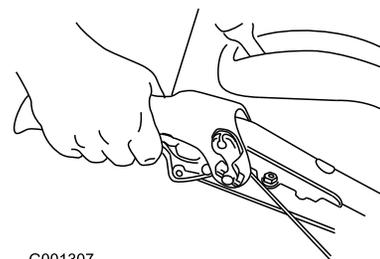

Figure 8
4. To move forward, engage the traction drive and slowly squeeze the left hand traction lever to the handle (Figure 8). Momentarily squeezing and releasing the left or right wheel clutch lever allows for steering adjustments to keep the machine going in a straight line, especially in deep snow.